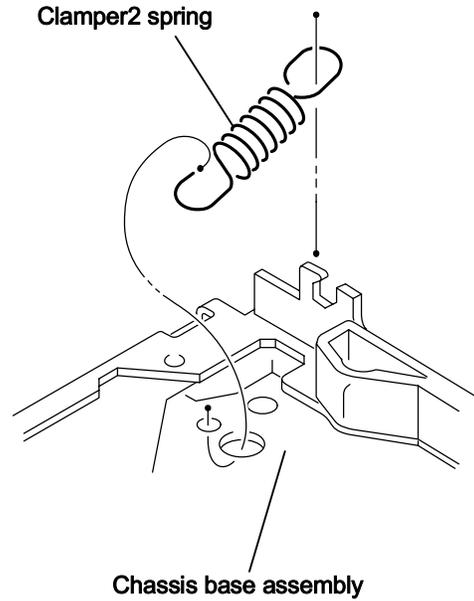

Fig.6
- Move the clamber unit in the direction of the arrow and turn. Release the two joints **e** and **f**, then remove the clamber unit upward. (See Fig.6.)